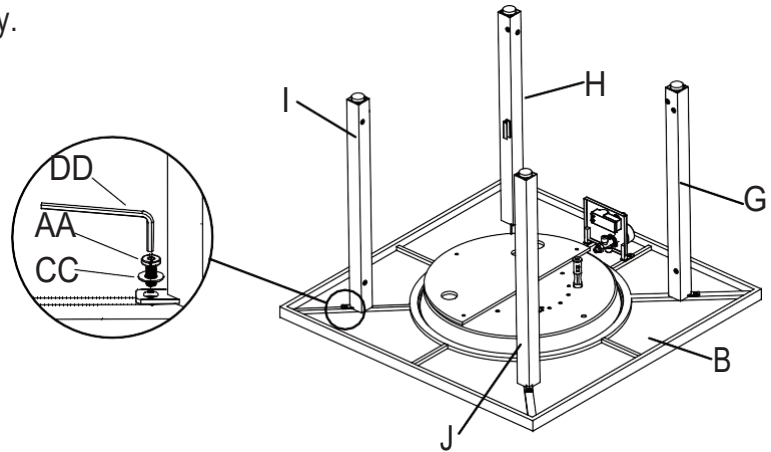

Figure 2
- Attach back-left leg (I) and back-right leg (J) and front-left leg (H) and front-right leg (G) to table top assembly (B) with bolts (AA) and washer (CC) by using hex screw driver (DD), (see Figure 2).